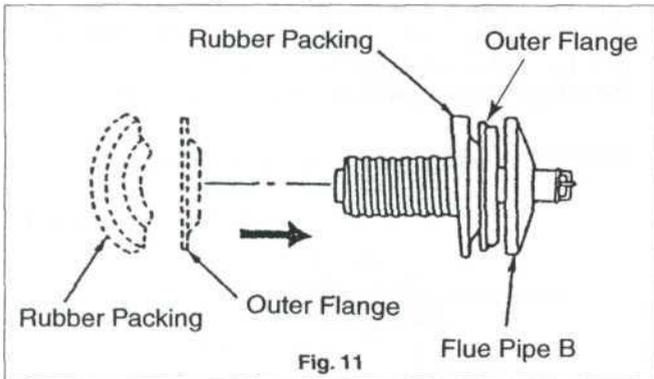

Fig. 11
1. Slide the outer flange and the rubber packing onto Flue pipe B. (Figure 11)